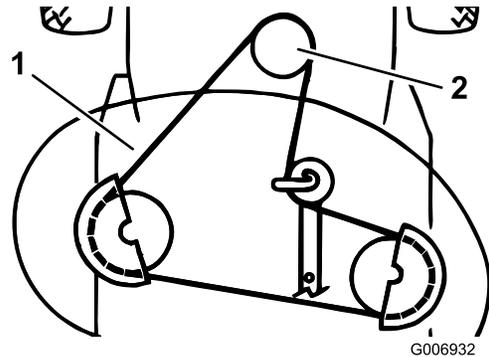

Figure 53
14. Remove the cutter deck belt from the electric clutch pulley (Figure 53).
15. Remove the cutter deck belt from the lower engine pulley (Figure 53).
6. Install the cutter deck belt onto the lower engine pulley (Figure 53).